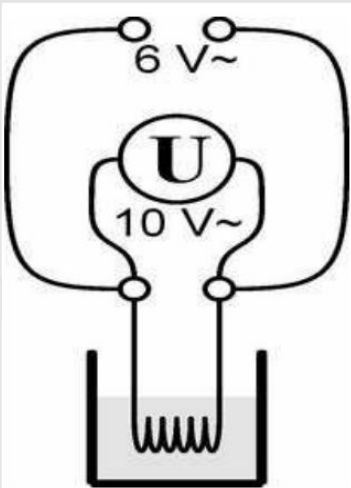

Figure 3
9. Connect the heating coil and the multimeter with the connecting leads to the AC output 6 V~ as shown in Fig. 3, select measuring range 10 V~.